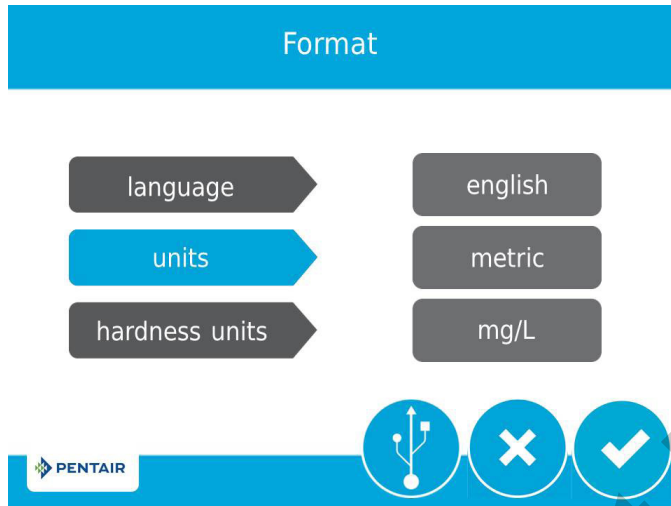

Figure 4 Format Screen
1. After plugging in the unit, the Format screen (Figure 4) is displayed.